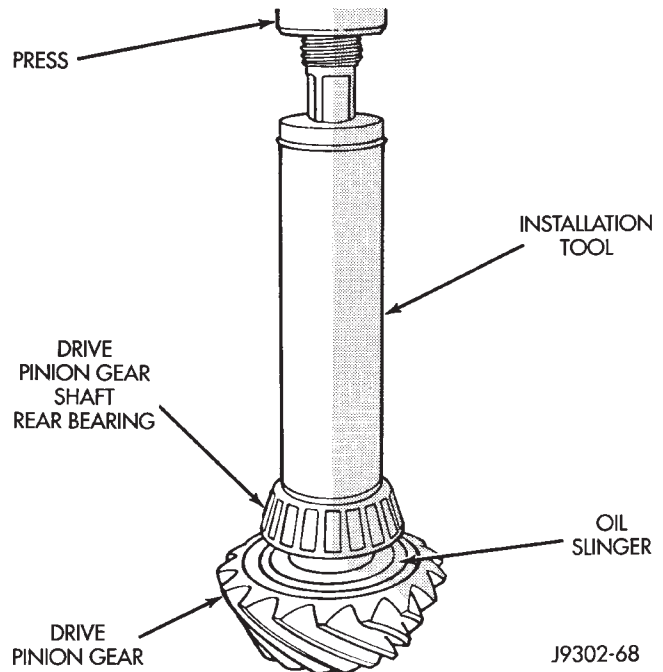

Fig. 36 Rear Pinion Bearing Installation
(6) Install the rear pinion bearing and oil slinger, if equipped, on the pinion gear with Installer W-262 and a shop press (Fig. 36).